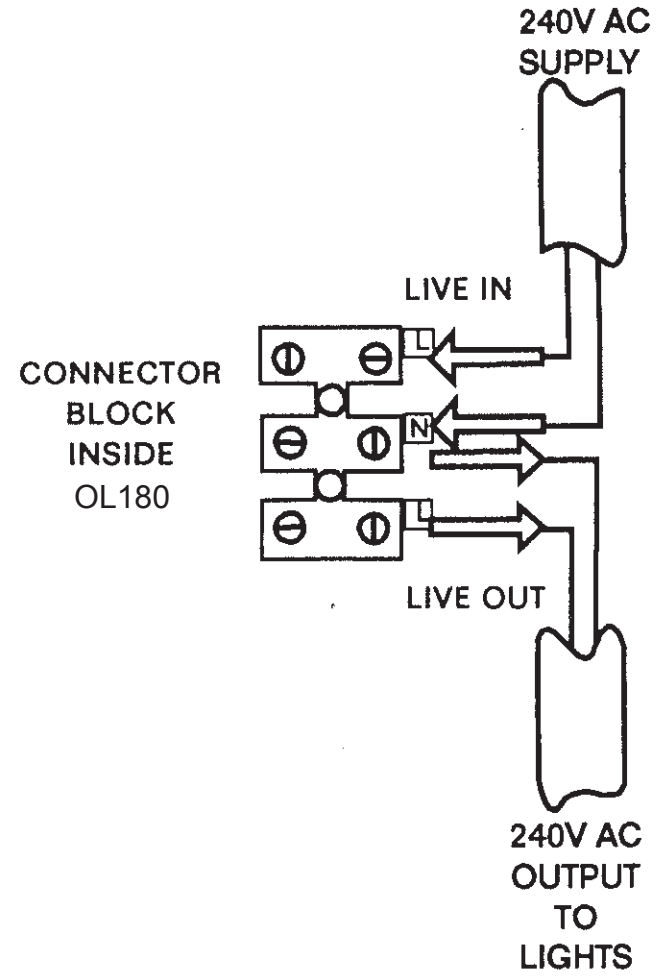

fig 7
- Connect the connecting cables to the terminal block according to the connection diagram. Fig 7